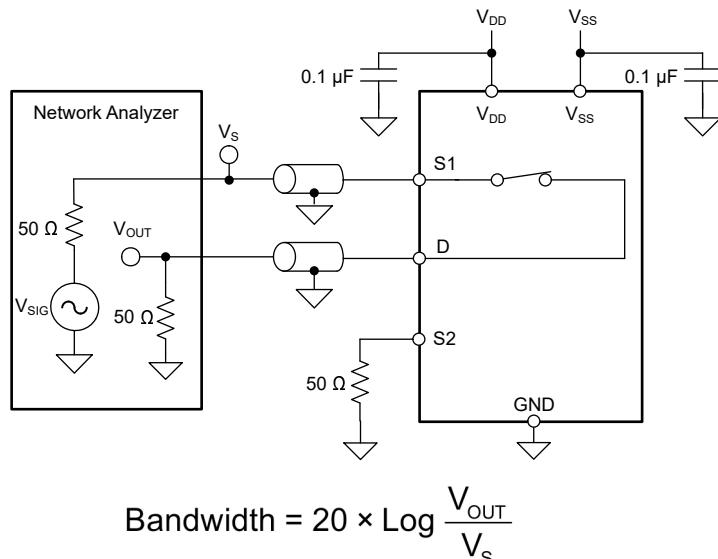

図 6-12. Bandwidth Measurement Setup
Bandwidth is defined as the range of frequencies that are attenuated by less than 3 dB when the input is applied to the source pin (Sx) of an on-channel, and the output is measured at the drain pin (D) of the device. 図 6-12 shows the setup used to measure bandwidth.